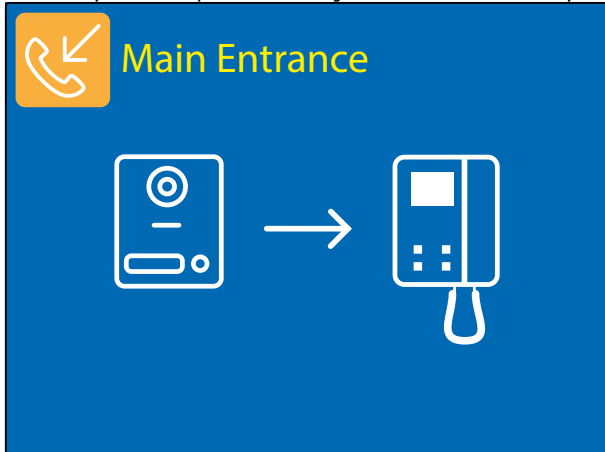
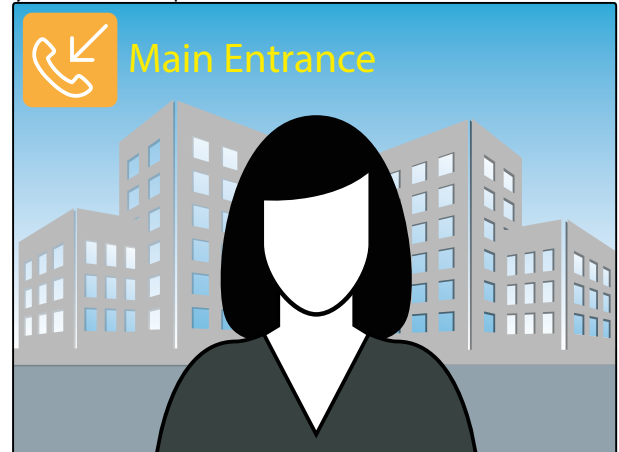

Fig. 28 Incoming call initialising the video
Fig. 29 Incoming call showing the video
- On an incoming call the videophone rings and the display shows the initialising screen (Fig. 28) first then shows the video coming from the door panel (Fig. 29).